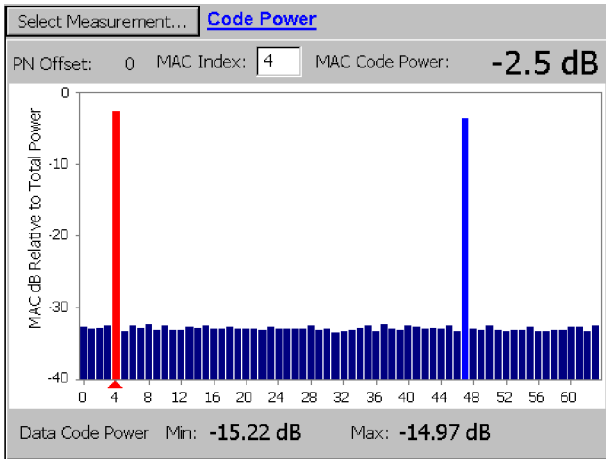

Figure 3-49: 1xEV-DO Code Domain Power display
5. Tap **Code Power**. See Figure 3-49.